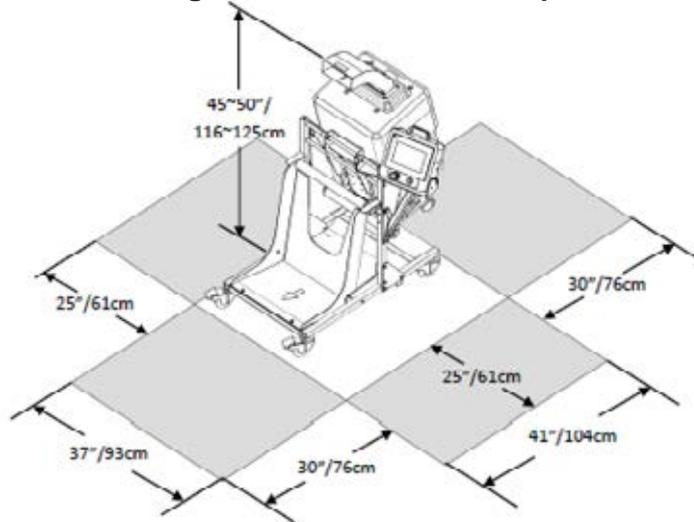

Figure 6 Table-Side Stand Set-Up
2. Table-Side Stand (refer to Figure 6).